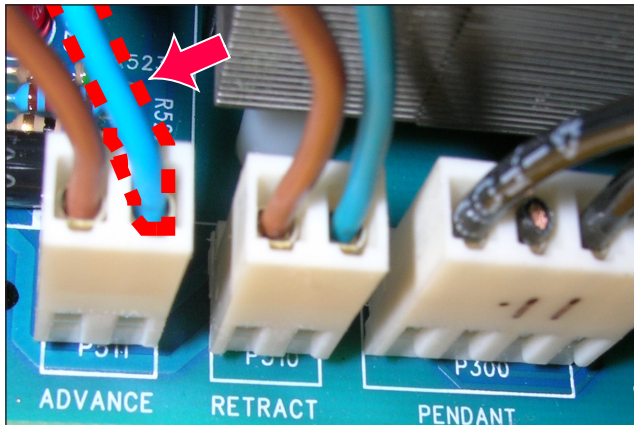
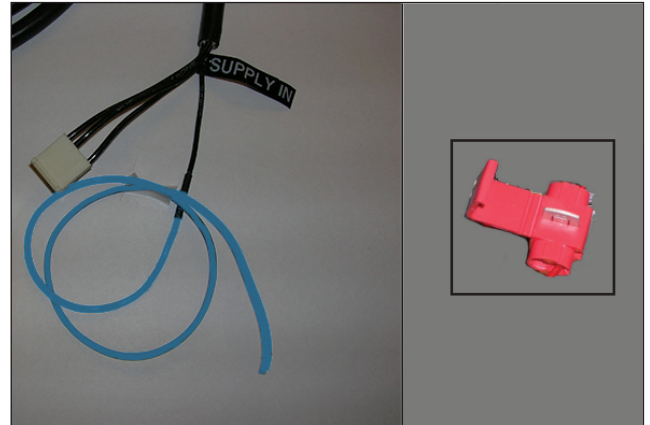
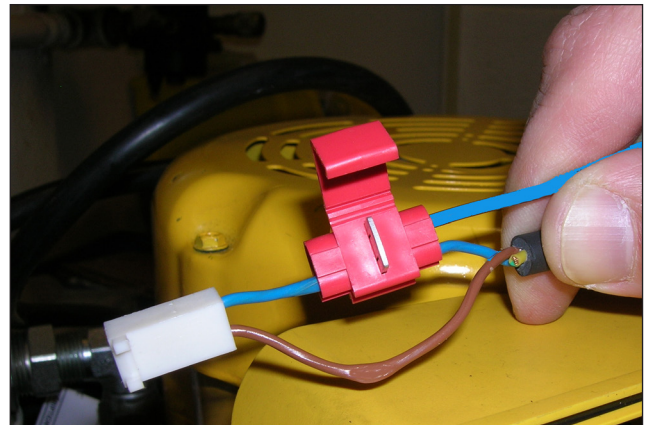

Figure 8, Power Wire
Figure 9, Supply-In Wire and Splicing Connector
Figure 10, Assembling the Power and Supply-in Wires
10. Locate the power wire feeding into the *advance* 2-pin connector. See Figure 8.
12. Locate the supply-in wire (marked “+ supply-in”) on the new pendant cable. Also locate the splicing connector (shipped loose in the carton with the pendant). See Figure 9.
13. Insert the power wire (shown in Figure 8) into the thru-hole groove of the splicing connector. See Figure 10.
14. Insert the supply-in wire (shown in Figure 9) into the blind hole of the splicing connector. Be sure that the supply-in wire is fully inserted (bottomed out) in the blind hole. See Figure 10.